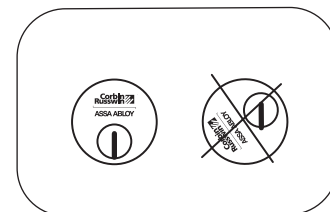

Figure 5-5A
4. Verify that orientation of cylinder has the Corbin Russwin logo as depicted in Figure 5-5A.